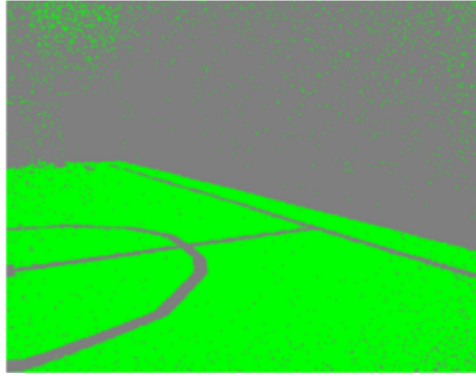

Figure 1: Exemplary configuration of the green color
3. Adjust the provided sliders in the ColorCalibration information view until the segmented images show good results for the chosen color (See Figure 1 for an exemplary calibration of the green color).